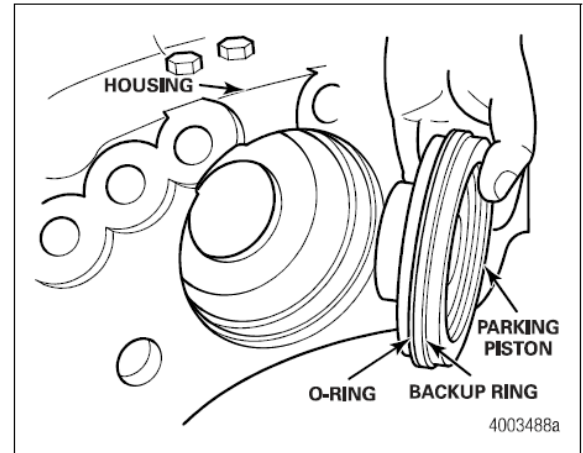

Figure 3.9
12. Remove the five-inch (127 mm) diameter O-ring and backup ring from the parking piston. Discard the O-ring and backup ring. Figure 3.9